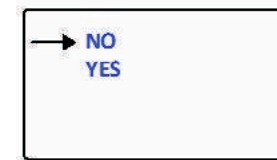

Fig 6.3.3
3) When it comes to the country you want, double knock to enter, as Fig 6.3.3.